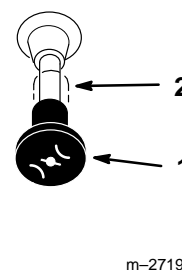

Figure 4
4. Move the choke control to “ON” position before starting a cold engine (Fig. 4).
7. After the engine starts, move the choke to “OFF” (Fig. 4). If the engine stalls or hesitates, move the choke back to “ON” for a few seconds. Then move the throttle lever to desired setting. Repeat this as required.